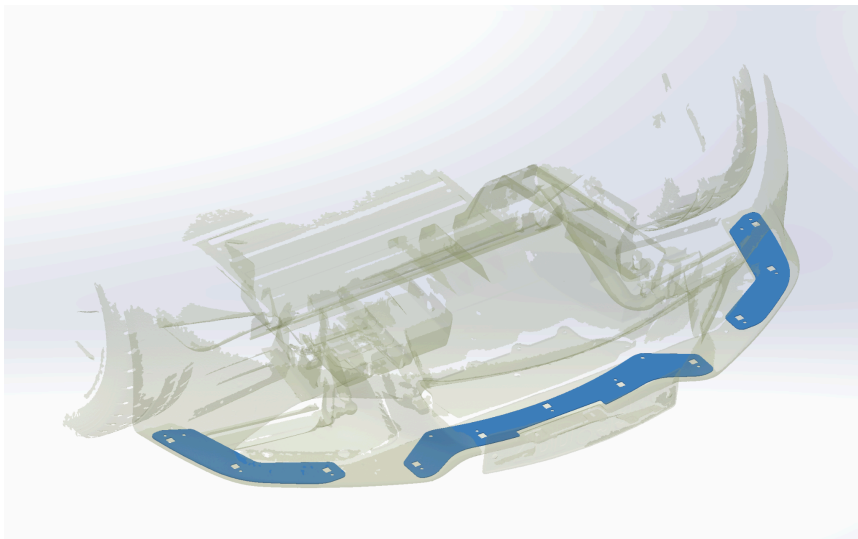

Fig 2: Installing the frontclam reinforcements (10 & 11).
2. Remove the OEM M5 slip nuts from the bottom of the frontclam and glue the frontclam reinforcements (10, 11) into the frontclam as shown in Fig. 2 using bodywork adhesive (35) and bodywork adhesive primer (36)